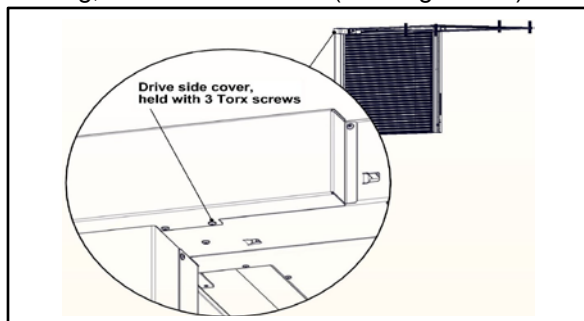

Figure 22
3. Remove the covers from the left and right drive assemblies. Each is held in place by, 20-mm-long, Torx head screws. (See Figure 22.)